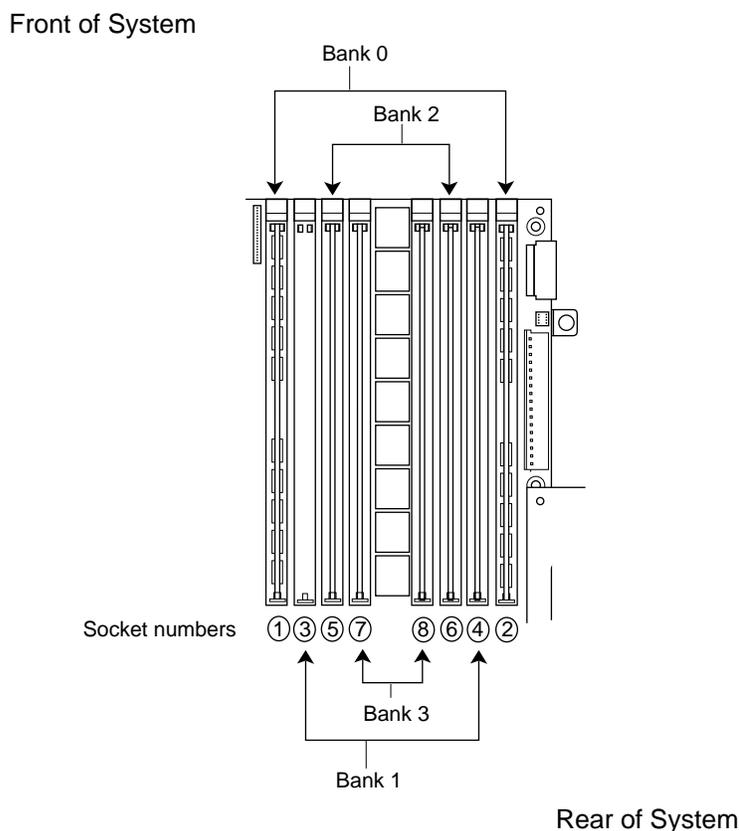

Figure 5-3 How DIMM Pairs Are Grouped In the Origin200 Server
6. Install DIMMs in pairs, starting with the pair farthest away from the center of the banks and working inward. Figure 5-3 shows the grouping of DIMM pairs:
- Figure 5-3 shows one pair of DIMMs installed in bank 0 (all modules must have memory in bank 0; if you have a two-module system, both must have memory in bank 0)